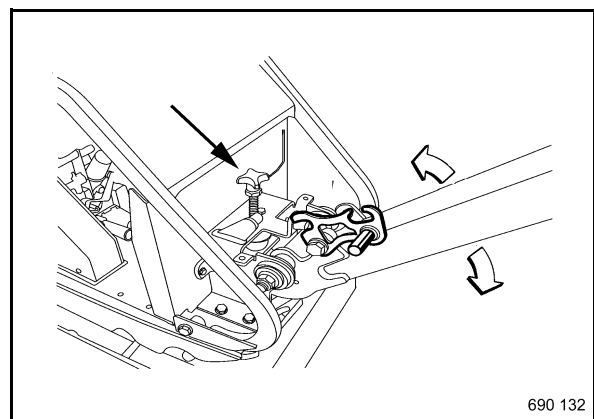

Fig. 22
- Adjust the steering rod with the height adjustment (Fig. 22) to the height of your body.